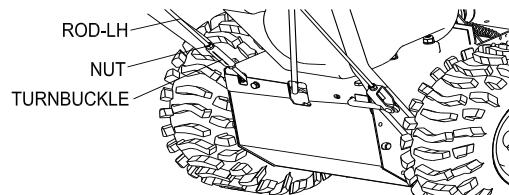

FIG 3
**2.3.1** Begin by placing rod through the slot on the left side of the upper handle then thread the wheel drive rod into the turnbuckle assembly located on the left side of the engine deck. Thread rod into turnbuckle until the turnbuckle reaches the preset jamb nut. Ref to (FIG 3).